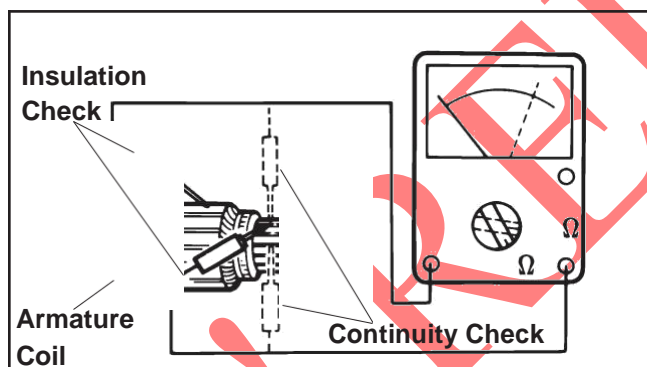

Figure 8-51. Checking Armature.
2. Use an ohmmeter set to the Rx1 scale. Touch the probes between two different segments of the commutator, and check for continuity. See Figure 8-51. Test all the segments. Continuity **must** exist between all or the armature is bad.
3. Check for continuity between the armature coil segments and the commutator segments. See Figure 8-51. There should be no continuity. If continuity exists between any two, the armature is bad.